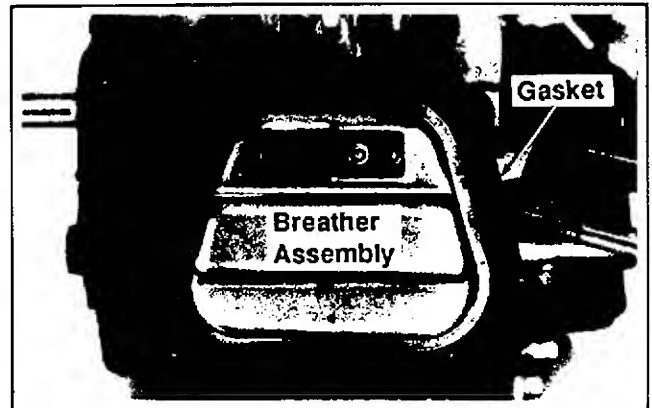

Figure 9-14. Removing Breather Assembly.
2. Remove the breather assembly and valve cover gasket from the cylinder head. See Figure 9-14.